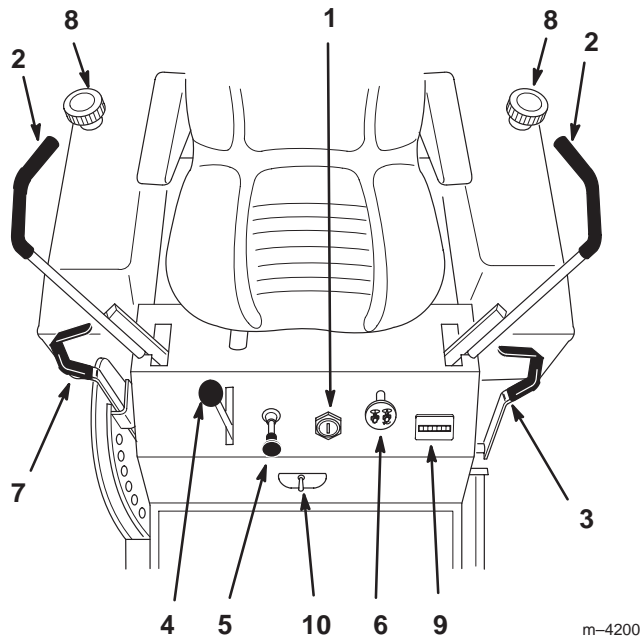

Figure 10
Become familiar with all of the controls (Fig. 10) before you start the engine and operate the machine.
1. Move the motion control levers (Fig. 10) out to the neutral lock position.